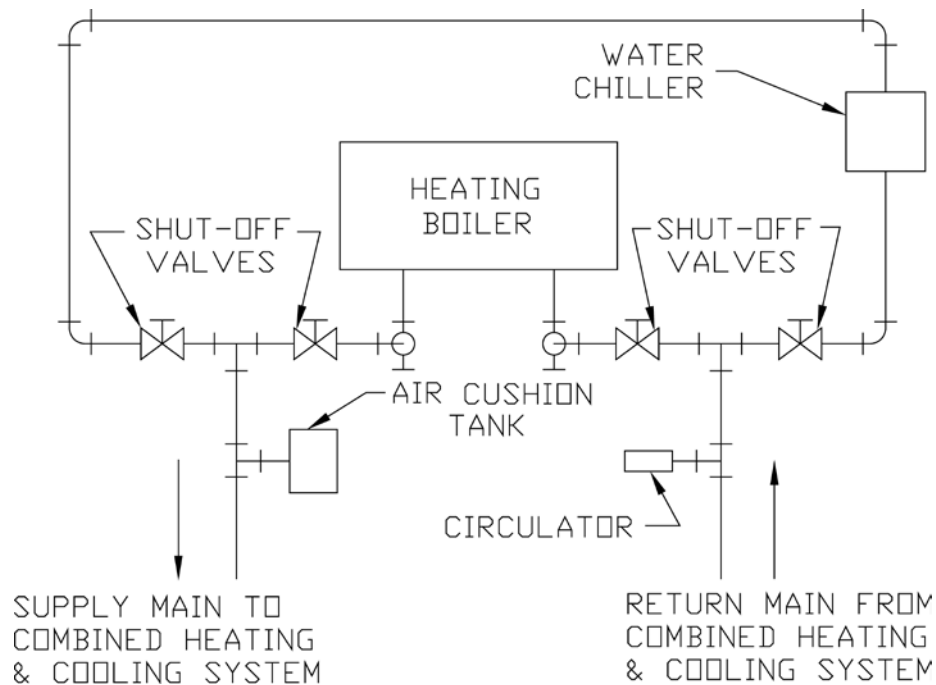

Figure 11: Recommended Piping for Combination Heating and Cooling (Refrigeration) System
1. If this boiler is used in connection with refrigeration systems, the boiler must be installed so that the chilled medium is piped in parallel with the heating boiler using appropriate valves to prevent the chilled medium from entering the boiler. See Figure 11. Also, consult Residential Hydronic Heating Installation and Design I=B=R Guide.